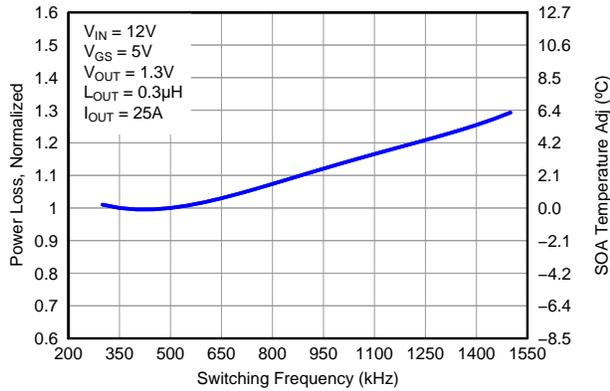

Figure 6. Normalized Power Loss vs Switching Frequency
- Normalized Power Loss for switching frequency  $\approx 1.08$  (Figure 6)
- SOA adjustment for switching frequency  $\approx 1.8^\circ\text{C}$  (Figure 6)